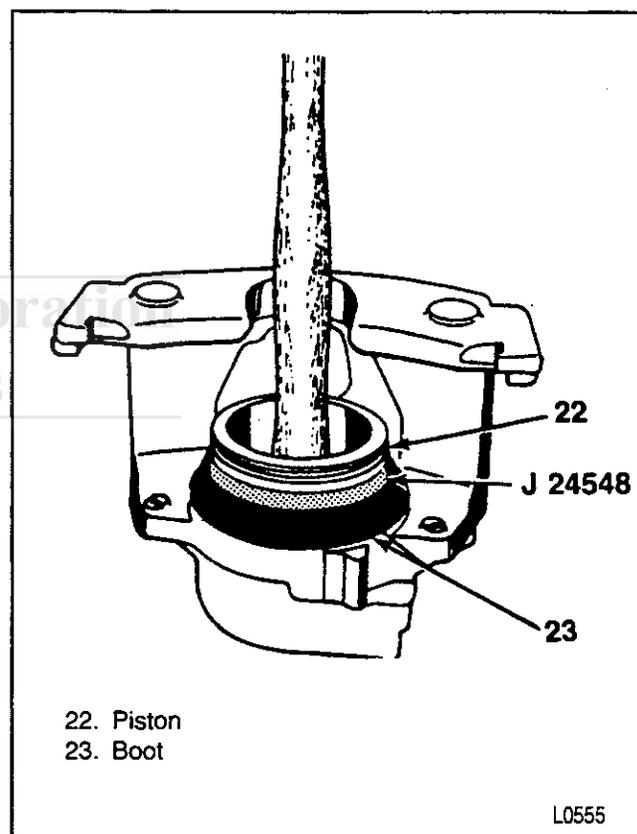

Figure 32—Installing the Piston
- Piston (22) inside J 24548 (figure 32).